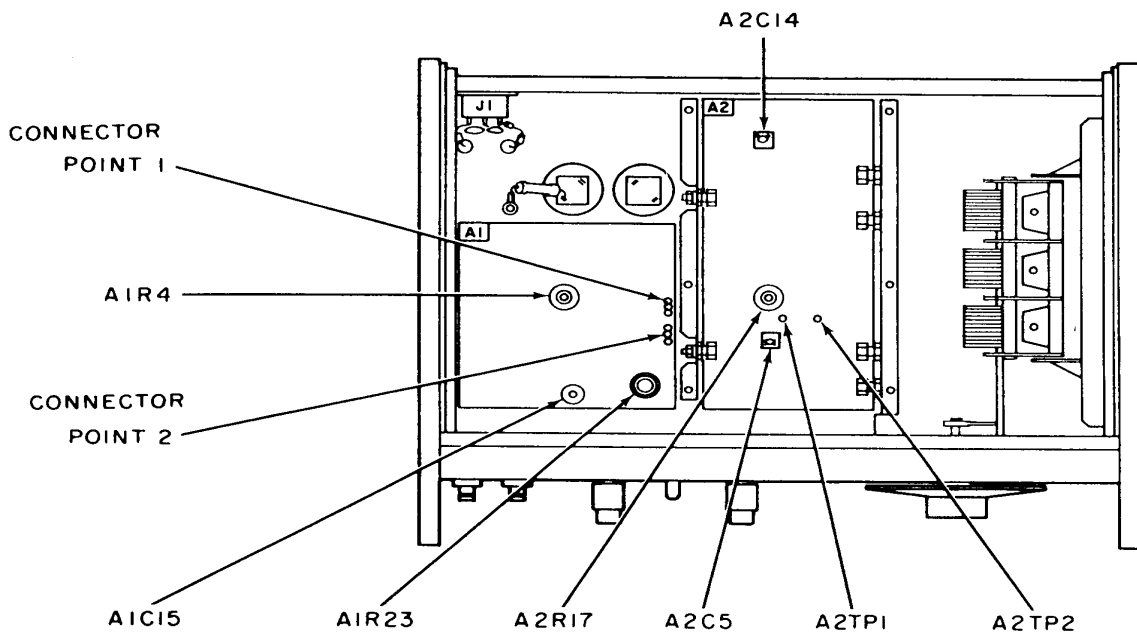
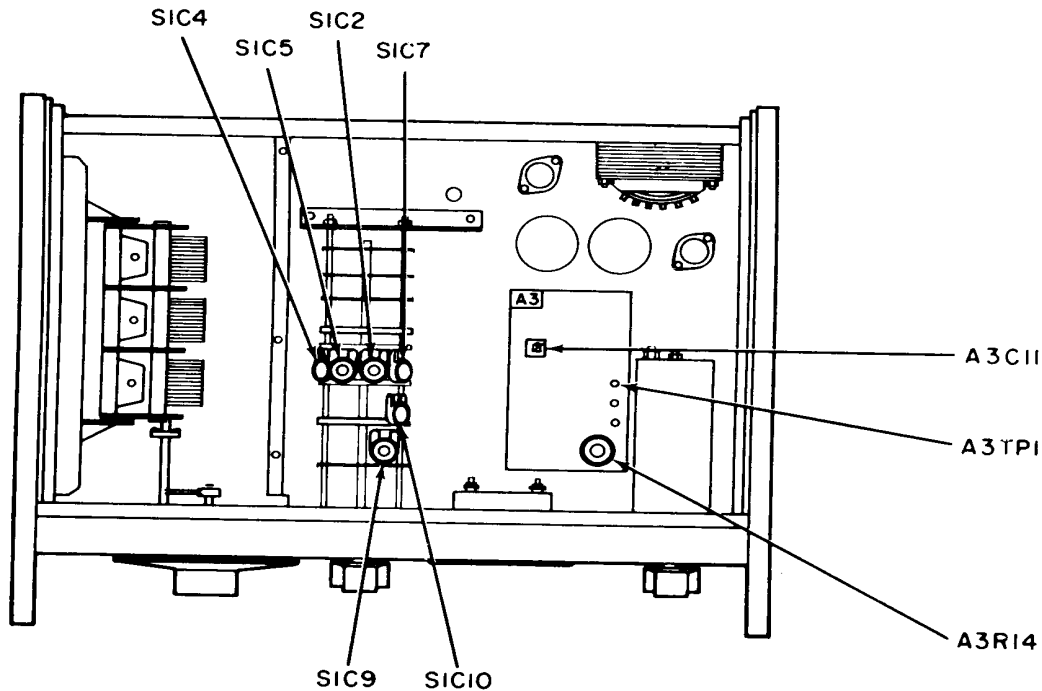

Figure 1. Test instrument - bottom view.
Figure 2. Test instrument - top view.
- (1) Remove TI bottom cover and oscillator shield.
- (2) Connect multimeter with a 1 kΩ resistor in series between A2TP1 (fig. 1) and chassis ground.
- (3) Connect audio analyzer to TI using a 50 Ω feed-through termination.
- (4) Position controls as listed in (fig. 2) below.
- (5) Adjust **AMPLITUDE** controls for a 3.0 V indication on TI meter. Multimeter will indicate between 100 and 120 mV ac.
- (6) Adjust A2R17 (fig. 1) for minimum distortion (R).
- (7) Connect multimeter between A2TP2 (fig. 1) and chassis ground.
- (8) Connect frequency counter to TI, using a 50 Ω feed-through termination.
- (9) Turn **FREQUENCY** dial to 10.
- (10) Adjust S1C2 and S1C7 (fig. 2) alternately until multimeter indicates -350 mV and frequency counter indicates 10.0 kHz (R).
(17) Adjust S1C5 (fig. 2) and A2C5 (fig. 1) alternately until frequency counter indicates 10.0 MHz and multimeter indicates -370 mV (R).
If TI will not oscillate, adjust S1C10 (fig. 2) slightly.
(20) Turn **FREQUENCY** dial to **5**.
(21) Adjust S1C10 (fig. 2) until frequency counter indicates 5.0 MHz and multimeter indicates -310 MHz (R).
(22) Repeat (16) through (21) above until no further adjustment is required.
(23) Set **FREQUENCY RANGE** switch to **X100K** and turn **FREQUENCY** dial to **10**.
(24) Adjust S1C4 and S1C9 (fig. 2) until frequency counter indicates 1.00 MHz and multimeter indicates -275 mV (R).
- (1) Adjust **AMPLITUDE** controls for a 3.00 V indication on multimeter.
- (2) Adjust A1R23 (fig. 1) for a 3 V indication on TI meter (R).
- (3) Adjust **OUTPUT AMPLITUDE** and **VERNIER** controls for a 3.075 V indication on multimeter.
- (4) Adjust A3R14 (fig. 2) for a +2.5 indication on TI meter percent scale (R).
- (1) Adjust A2C14 (fig. 1) fm best overall flatness between 1 and 10 MHz.
- (2) Set **FREQUENCY RANGE** switch to **X1M** and turn **FREQUENCY** dial to **10**.
- (3) Adjust **AMPLITUDE** controls for multimeter indication recorded in **a** (5) above.
- (4) Adjust A1C15 (fig. 1) for a 2.40 V indication on TI meter (R).